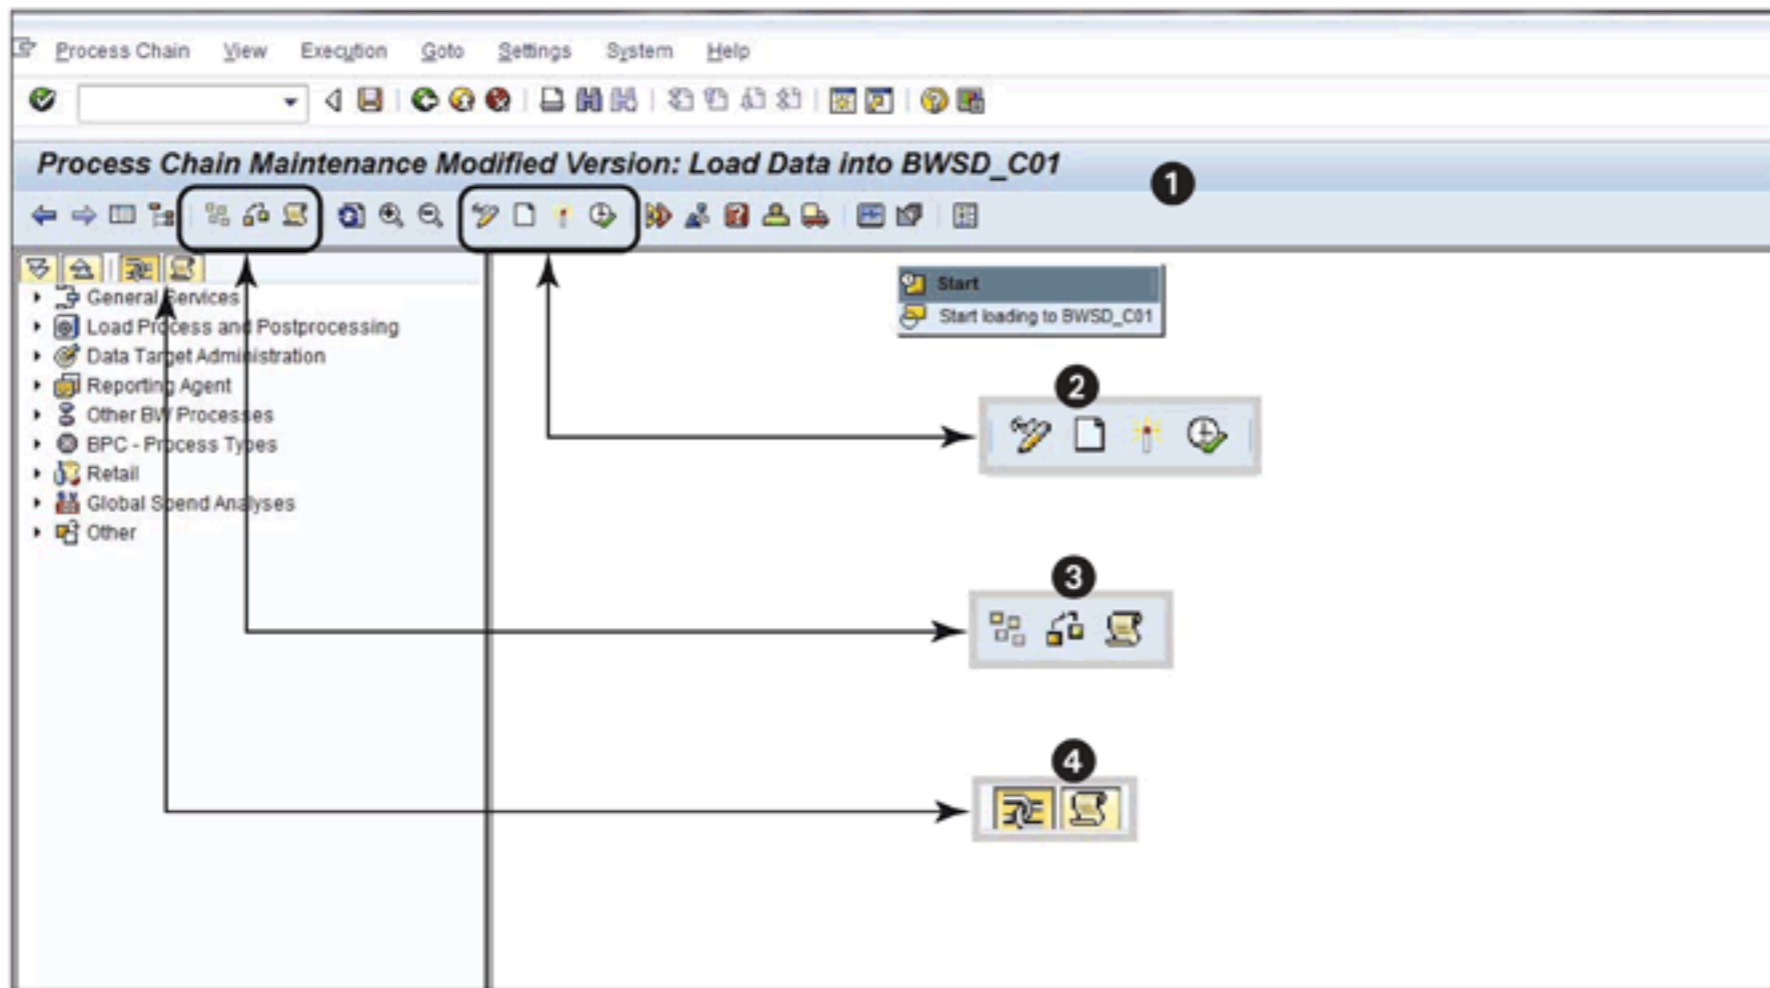
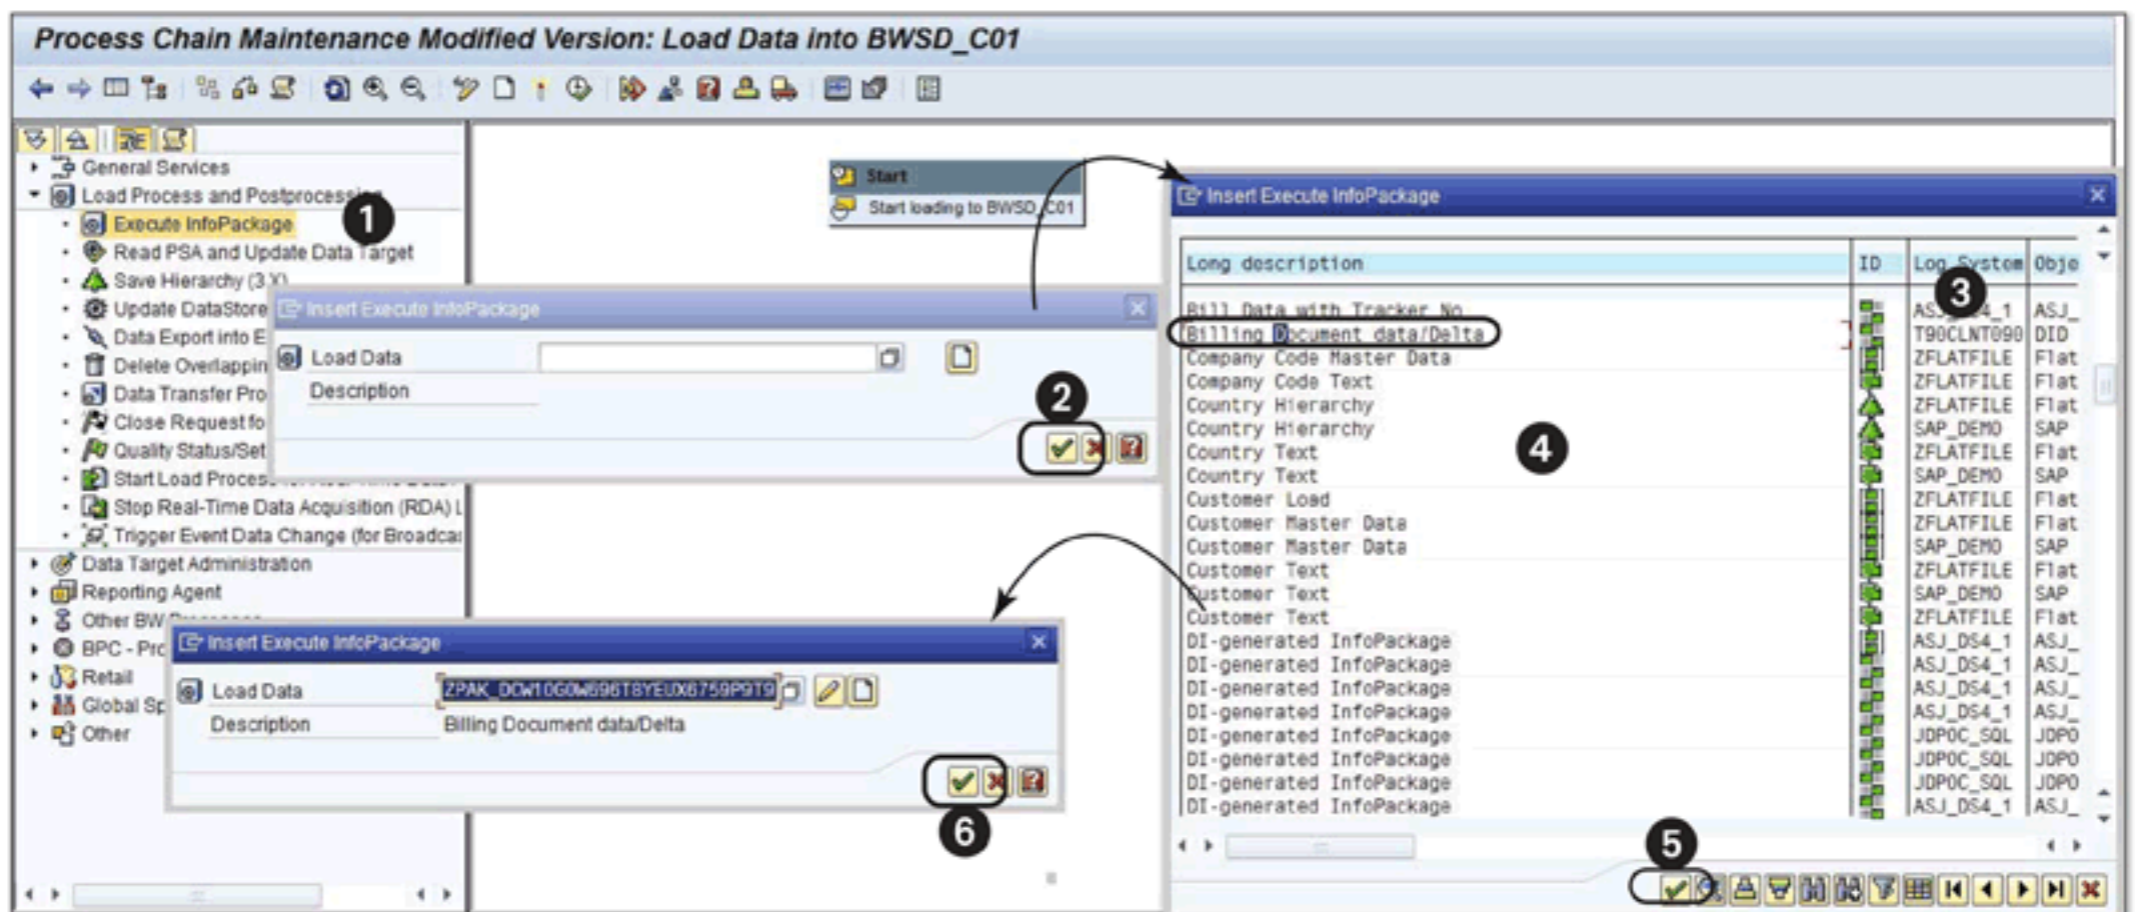

Figure 14.32 Icons and Buttons for Process Chain
Figure 14.33 Add Process Type in Process Chain
There are also buttons that help you set the start time (3); like any system job, there are multiple options for this (4). When you finish choosing the appropriate settings, save your changes, and use the BACK icon to return to the PROCESS CHAIN MAINTENANCE screen. The panel on the right should now display the start process (Figure 14.32).
The dynamic menu bar on the screen (1) has icons for editing, creating, activating, and scheduling a process chain (2), as well as icons for choosing the view of a process chain (3). Click on the PROCESS TYPES icon (4) (4 of Figure 14.32). The left panel displays the list of all process types. The first process we want to execute is for data extraction from a source system; from the left panel, choose the EXECUTE INFOPACKAGE process type (1 of Figure 14.33).